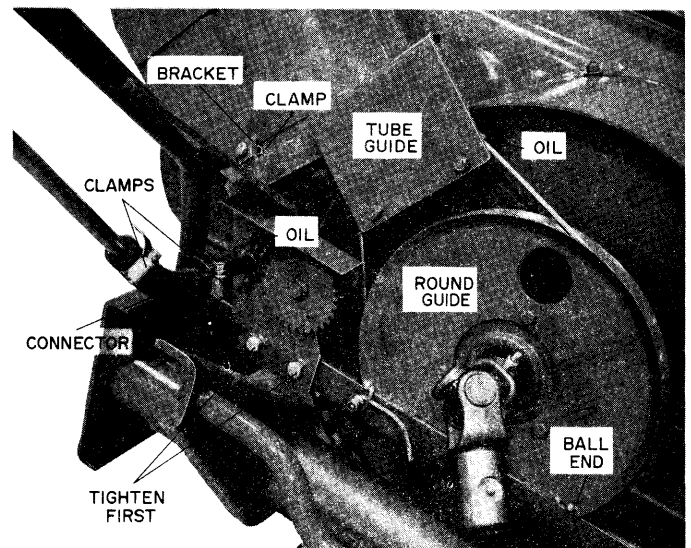

fig 3
15. Slide clamp into position under bracket and on top of wire rope. Tighten bolt against clamp, Items 53 and 86, fig 3.
16. Bolt crank support assembly to frame, Items 58 and 71. Be sure gear meshes with fan housing, Items 54 and 73. Tighten bolts under gears first and then tighten crank support bolts, fig 3.